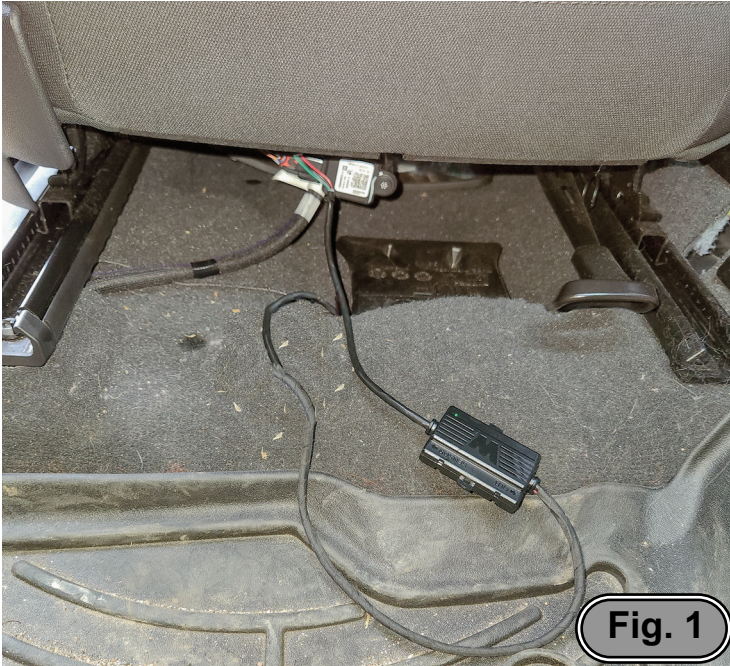
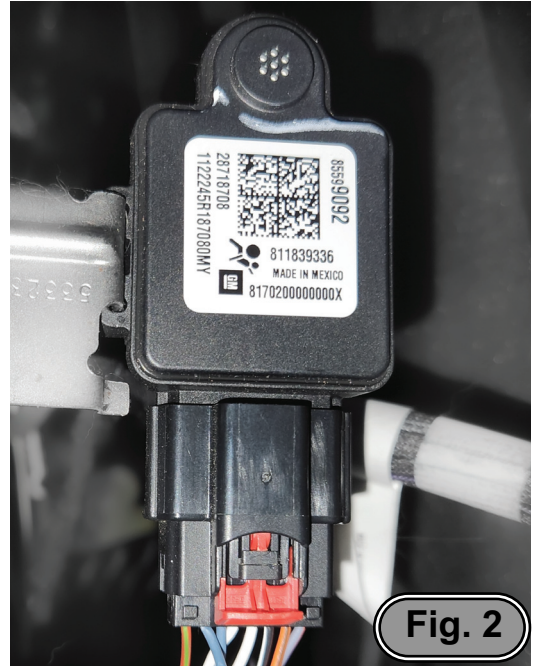

Fig. 1
Fig. 2
1. Locate your vehicle's Front Passenger Occupant Sensor (Fig. 2) located under the front passenger seat (Fig. 1).
2. Isolate the plug (Fig. 2) and identify the vehicle's CAN High (H) and CAN Low (L) wires. CAN H is located on Pin 2, and is Blue. CAN L is located on Pin 4, and is White.